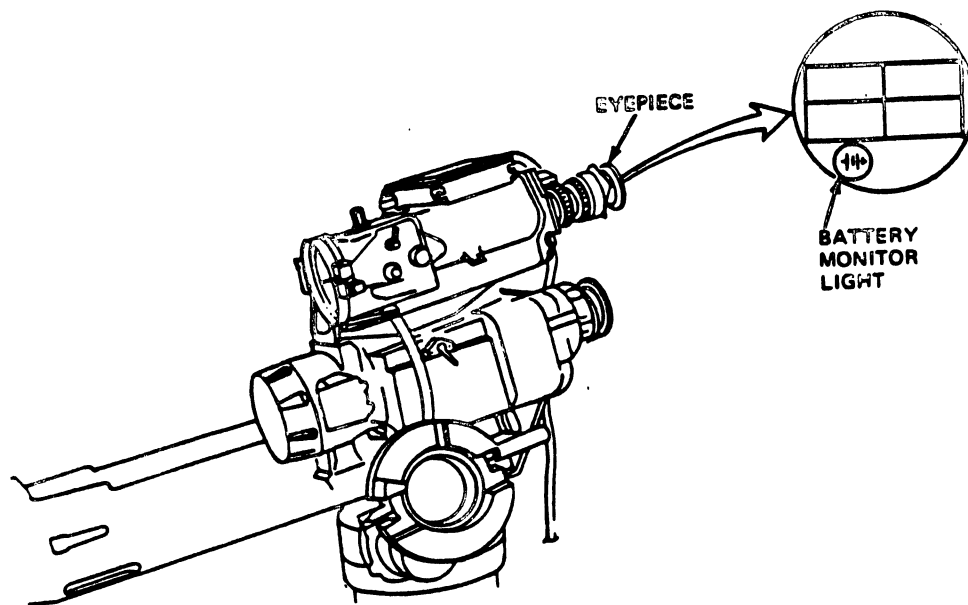

Fig 3-33. Battery monitor light (night sight).
Step 5. Look into the eyepiece of the night sight (fig 3-33).